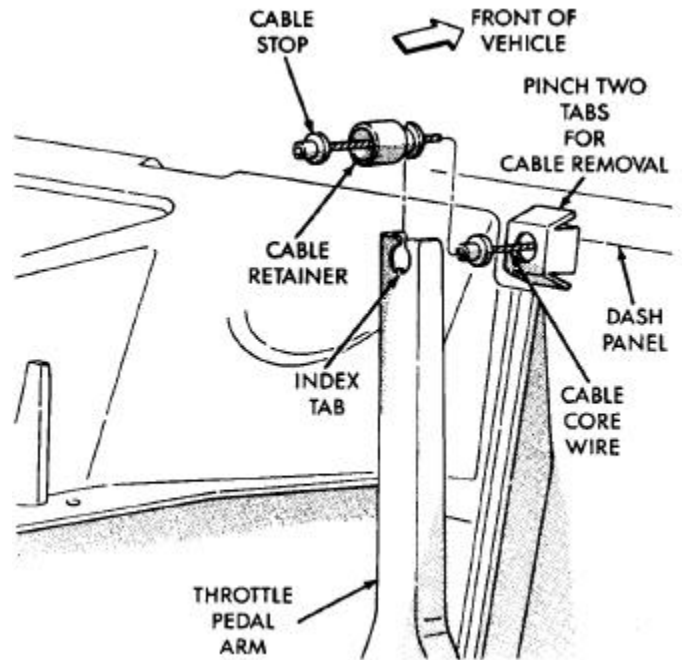

Figure 2
7. From the inside of the vehicle, lift the accelerator pedal and remove the plastic cable retainer and throttle cable core wire from the upper end of the pedal arm (Figure 2).
8. From inside the vehicle, pinch both sides of the throttle cable retainer tabs at the dash panel and disengage the cable body from the dash panel (Figure 2).
44. Install the end of the new throttle control cable through the dash panel opening (Figure 2).
45. From inside the vehicle, lift the accelerator pedal (Figure 2) and install the throttle cable core wire and plastic cable retainer through the upper end of the pedal arm (the plastic retainer is snapped into the pedal arm).
NOTE: When installing the plastic retainer to the accelerator pedal arm, align the index slot on the plastic cable retainer to the index tab (Figure 2).